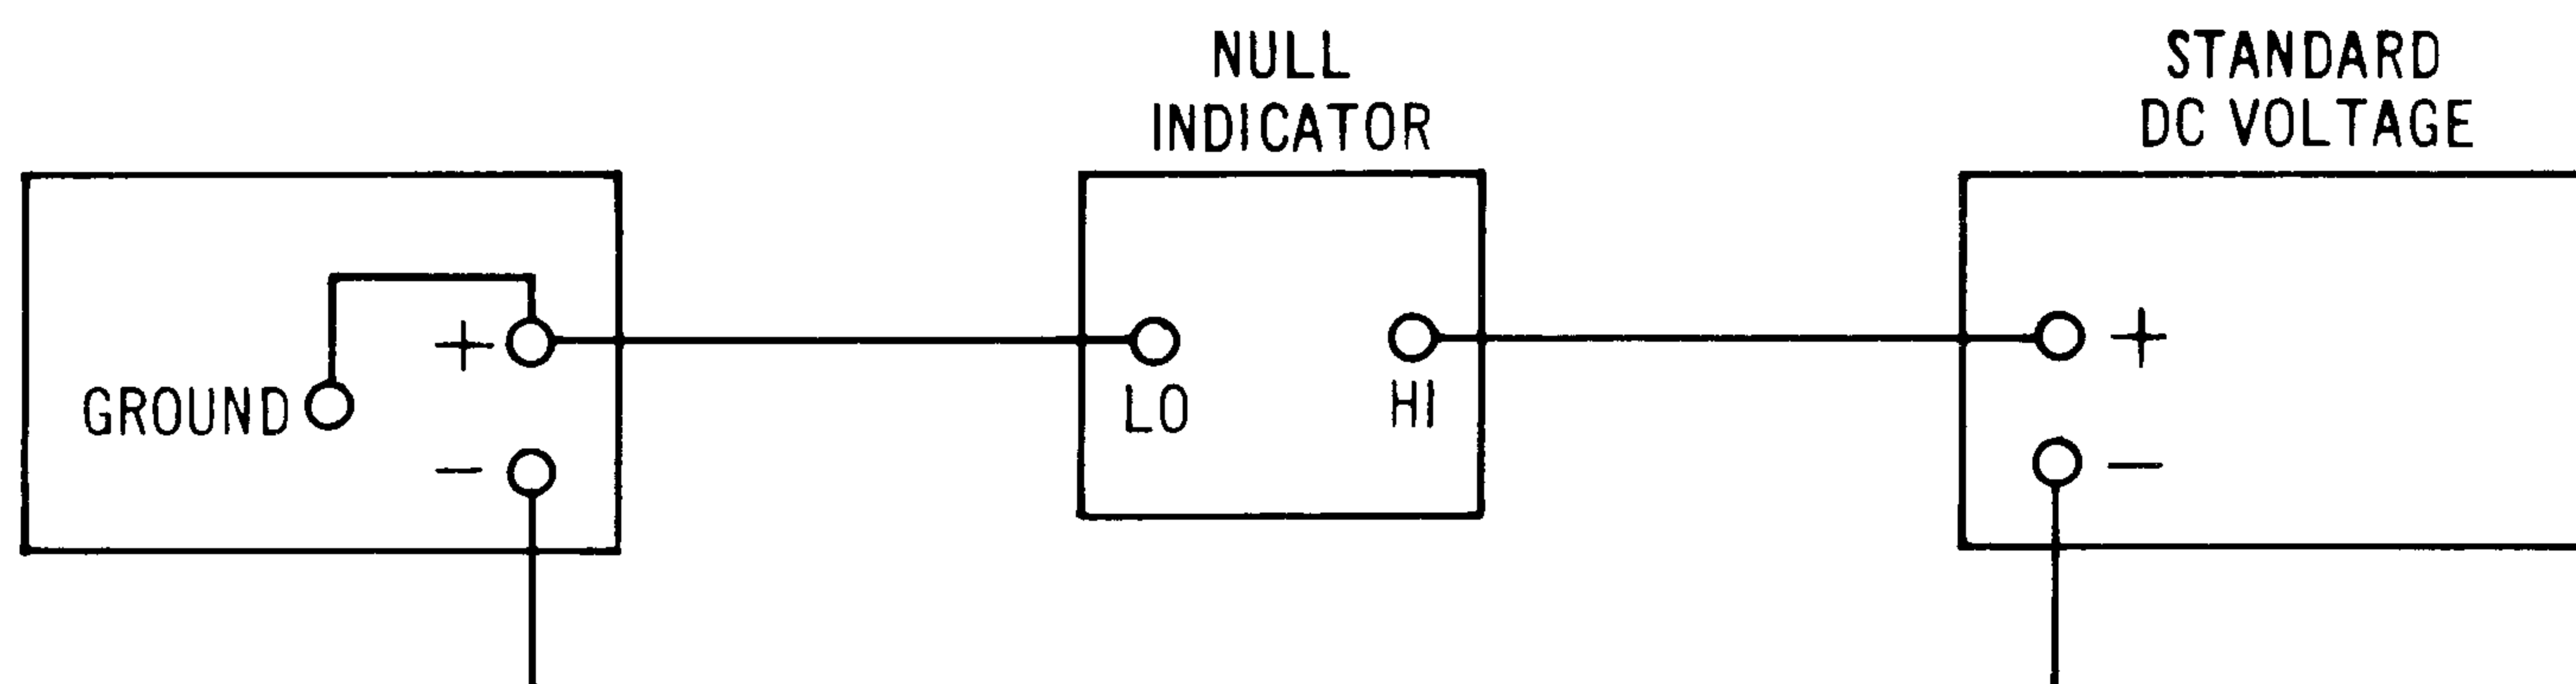

Figure 4-3. Calibration Setup
1. Connect the instrument to the test equipment as shown in Figure 4-3.